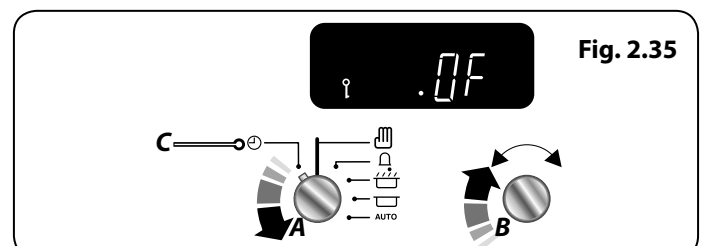

Fig. 2.35
3. Continue to hold the **Timer (A)** knob onto the **Clock (C)** setting, turn the **Adjusting (B)** knob clockwise, the 'OF' and the 'Key' symbol will display (**Fig. 2.35**). The left-hand oven is now locked.
4. To activate repeat steps 1 to 2 and continue to hold the **Timer (A)** knob onto the **Clock (C)** setting, turn the **Adjusting (B)** knob clockwise to 'ON', the 'Key' symbol will disappear and the left-hand oven is enabled.